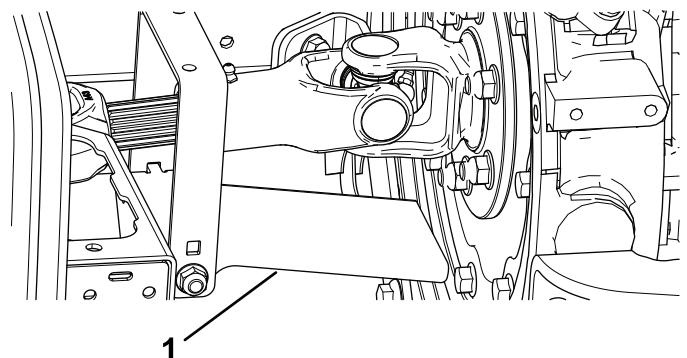

Figure 5
- Tilt the heat shield down so that the flange-head cap screws do not contact it when the driveshaft rotates (Figure 5).